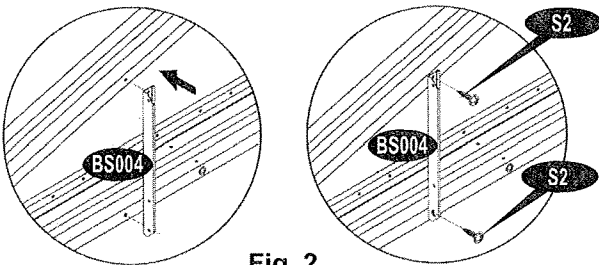

Fig. 2
13. Fix roof support bracket long/ left and right (BS004) with (S2) screws. See fig. 2. Bracket left and right must be face to each other.